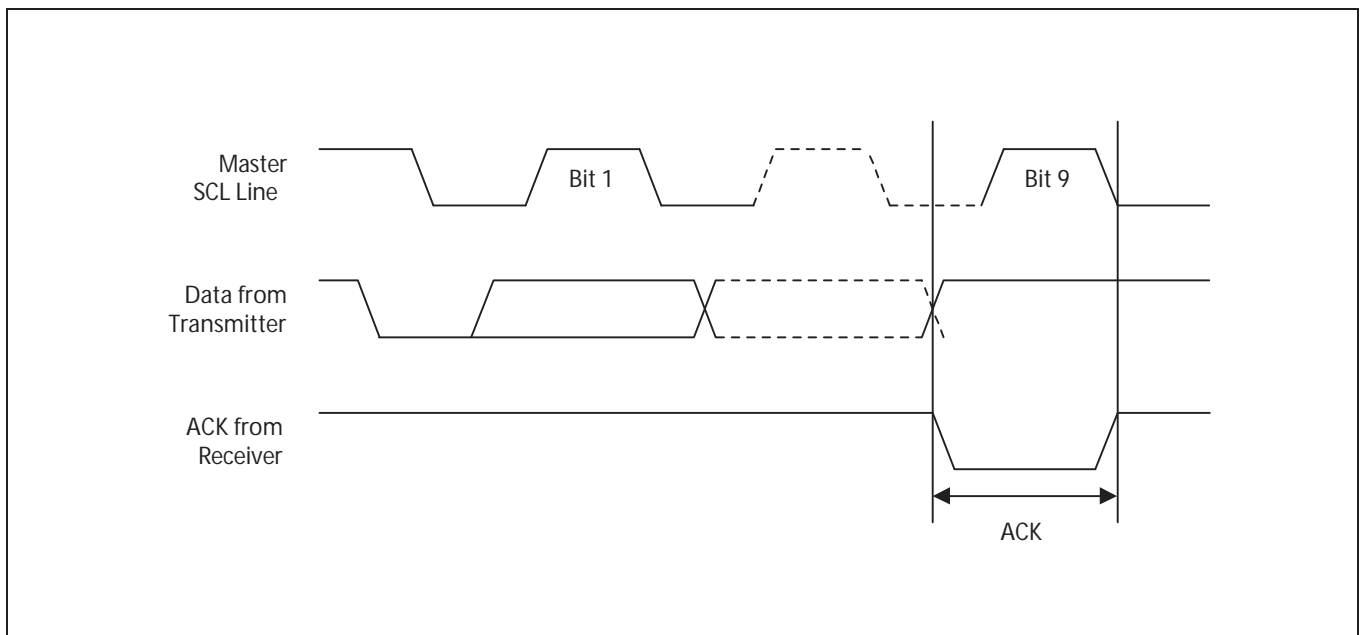

Figure 1-8. Acknowledge Response From Receiver
- ACK (Acknowledge) : An ACK signal indicates that a data transfer is completed successfully. The transmitter (the master or the slave) releases the bus after transmitting eight bits. During the 9th clock, which the master generates, the receiver pulls the SDA line low to acknowledge that it successfully received the eight bits of data (see Figure 1-8). But the slave does not send an ACK if an internal write cycle is still in progress.